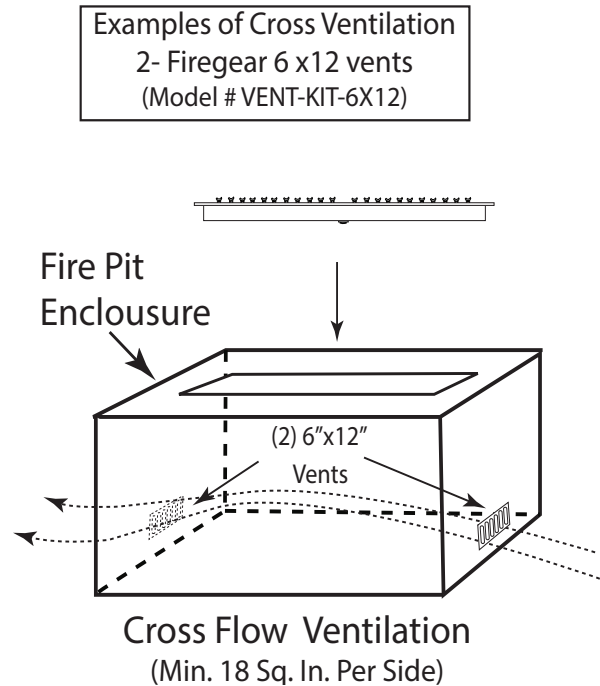

Fig. 3 Cross ventilation example
Fire pits are subjected to many outdoor elements such as rain, snow, wind, heat or cold. **A minimum of 18 square inches (two opposite sides) of cross ventilation is required to keep the components in good working order.** Use Fig. 3 as guide to assist to incorporate proper ventilation.
6. **CAUTION: A minimum of 18 square inches of cross ventilation (opposite sides) is required to keep the enclosure dry. See Fig. 3.**